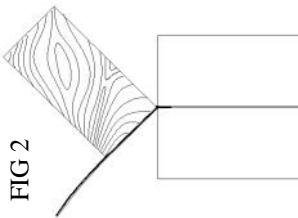

FIG 2
4. Clamp the top flange between two pieces of wood or aluminium channel and bend through 90 degrees (the half etched line is on the inside of the bend). (Figure 2) Use a piece of wood to make the bend.